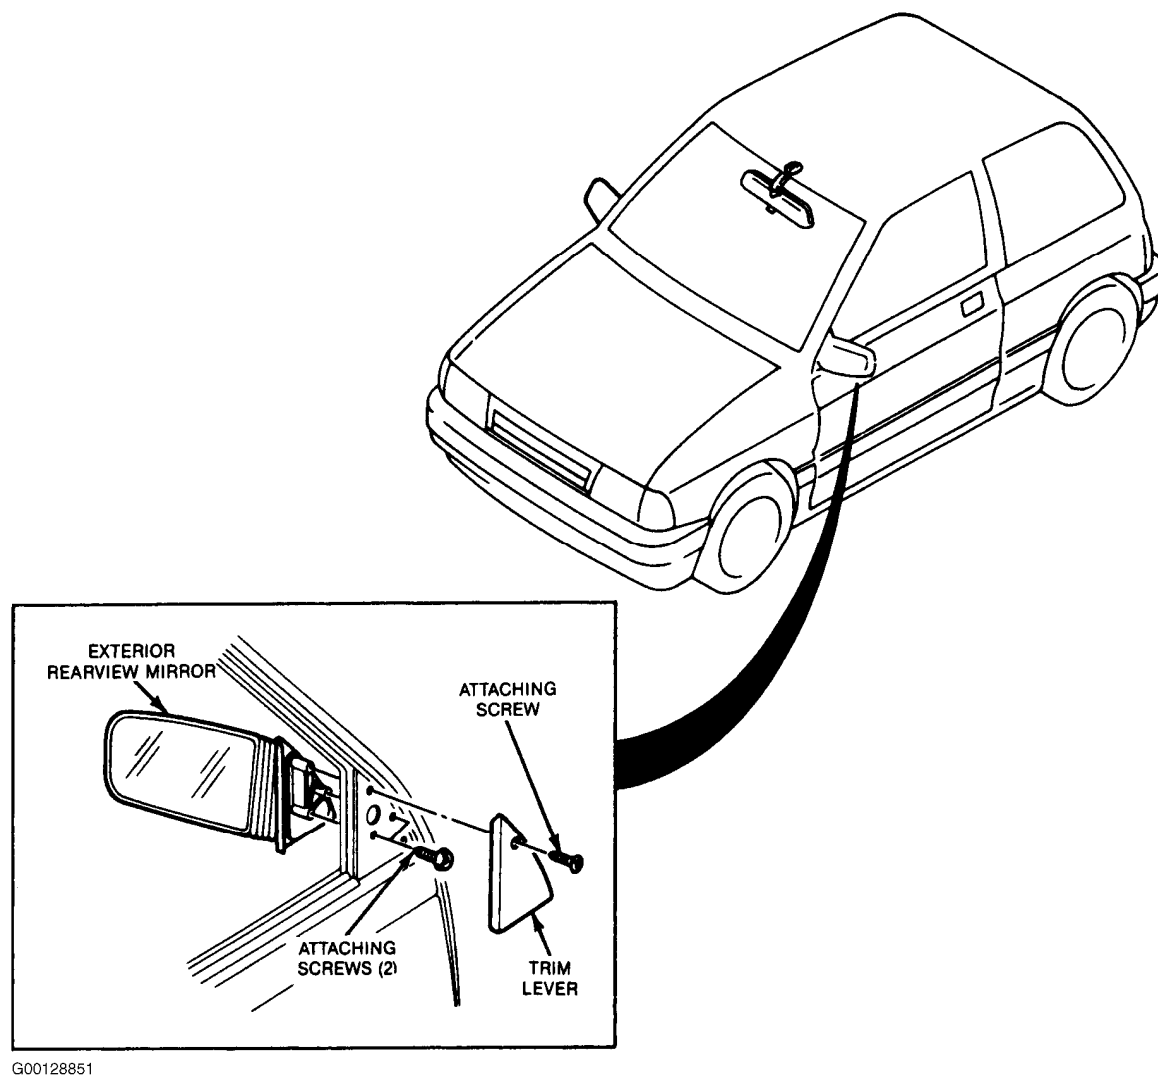

Fig. 9: Removing & Installing Power Rear View Mirror
1. Remove the interior trim cover attaching screw and trim cover. See Fig. 9 .
4. Remove the seal from the mirror. See Fig. 9.